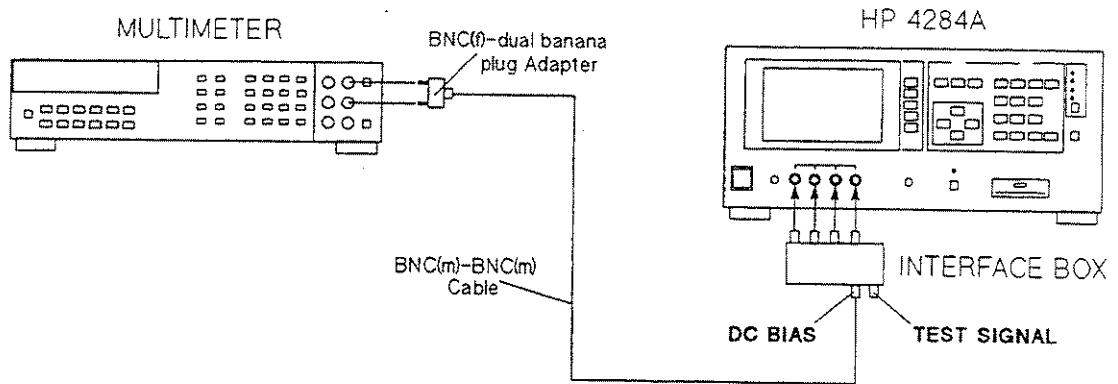

Figure 10-4. DC Bias Level Accuracy Test Setup Using an Interface Box
**Procedure:** 1. Connect the equipment as shown in Figure 10-4.